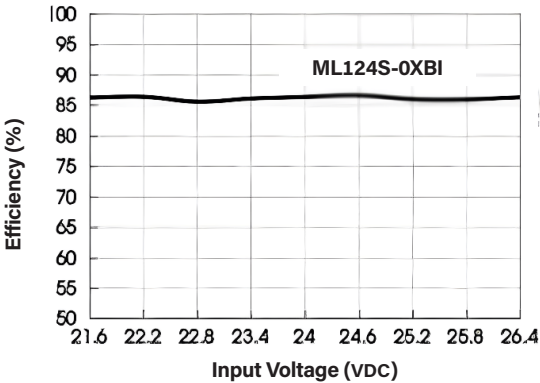

Fig. 8
6. These converters are designed to meet the IPC/JEDEC standard J-STD-020D.1 for reflow soldering. The recommended reflow settings are a peak temperature of 245°C for a maximum period (TPK) of 10S and a time above liquidous (TL) of <60 seconds at 217°C.
7. To further reduce input and output ripple, a capacitor filtering network can be connected at the input and output terminals. The application circuit is shown in Figure 8. However, care should be taken to select a suitable filter capacitor. If the capacitance is too large, it is likely to cause start-up problems. For each output, the recommended capacitive load values are shown in "Recommended Capacitive Load Value Table" for safe and reliable operation.